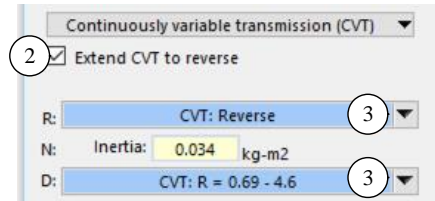

Figure 32. Extending the CVT to reverse.
- ② Checkbox to extend CVT settings for the reverse gear (keyword = OPT_CVT_REVERSE). If this box is checked, the constant values for the gear ratio, inertia and efficiencies for the reverse gear are hidden to show another blue link ③ to the **Powertrain: CVT Gear Ratio** library (Figure 32).